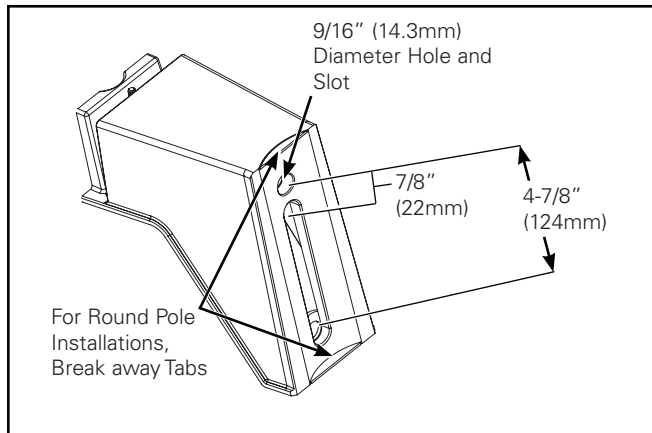
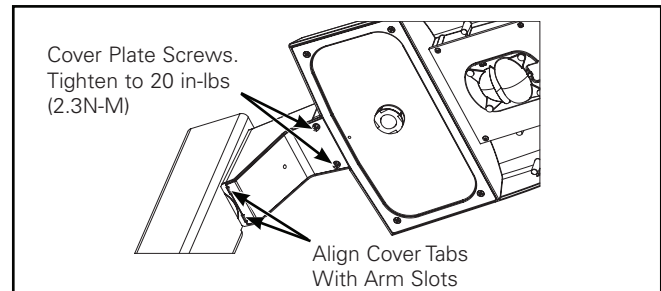

Figure 1.
Figure 5.
### Pole Mount Arm (Figure 1. - Figure 5.)
1. Pole mounting arm is designed for a square or round pole. Round pole installation will require the mounting arm break away tabs to be removed. Grab break away tab with pliers and break-away the tab. (Figure 1.)
**Note:** Ensure the luminaire supply leads do not get pinched between cover and mounting arm. (Figure 5.)